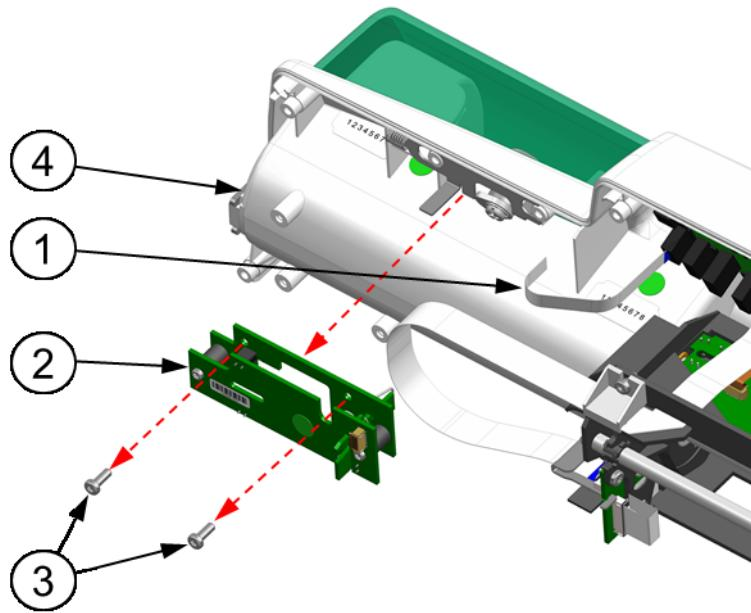

Fig. 87 PCA board removal/installation
2. Disconnect the **TA-58 FFC 0,5x10x80 extension line (1)** from the **PCA board (2)** as indicated on the **Fig. 87**.
3. By using the **TB-1** screwdriver unscrew two **3x8 (3)** screws for plastic as indicated on the **Fig. 87**.
4. Disassemble the **PCA board (2)** from the **Front case (4)** as indicated on the **Fig. 87**.
1. Assemble the **PCA board** (2) by screwing to the **Front case** (4) two **3x8** (1) screws for plastic by the **TA-41** torque screwdriver with the **TA-42** replaceable shaft. Perform the assembly opposite to the direction indicated by the red arrow in **Fig. 87**.
2. Connect the **TA-58 0,5x10x80 FFC extension line** (1) to the **PCA board** (2). Details have been indicated on the **Fig. 87**.